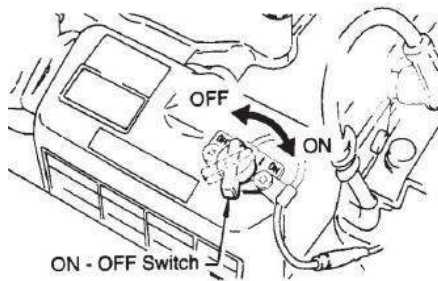
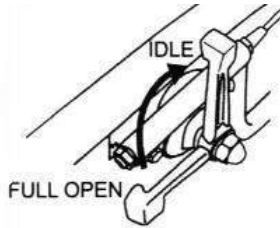

Fig 6
Fig 11
2. Set the engine ON/OFF switch (Fig 6) to the ON position (start)
1. Move throttle lever quickly from the FULL OPEN to IDLE position (Fig 11) and run the engine for three minutes at low speed. After the engine cools, turn the engine start/stop switch to the "STOP" position (Figure 6) until engine comes to a complete stop.